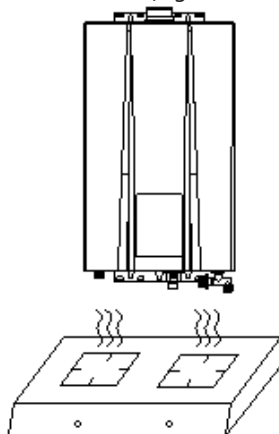

Figure 6.3-3
- Don't install the heater above the gas stoves or other heat sources (Figure 6.3-3).